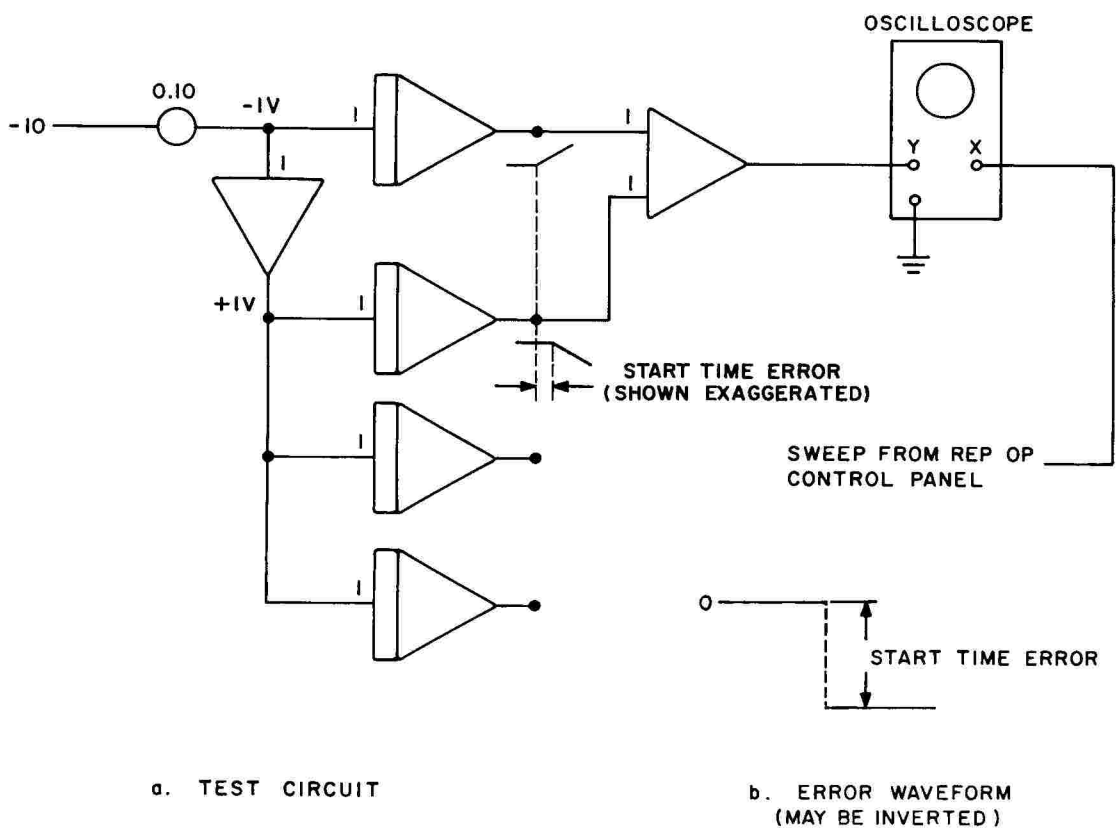

Figure 58. Start Time Error Test
(1) Patch the circuit shown in Figure 58. Place the computer in repetitive operation and select a compute time of 20 milliseconds. Set the vertical sensitivity of the oscilloscope to 50 millivolts/centimeter; set the horizontal sweep speed to 5 milliseconds/centimeter.
(2) Compare each integrator to the average integrator and observe the resulting waveform. A typical error waveform is shown in Figure 58. The maximum height of the step is 50 millivolts (50 mv = 100 microseconds). The rise time of the start time error (shown dotted) may show a slope.
(3) If an integrator has an excessive start time error, return the repetitive relay (K3) to EAI for adjustment.